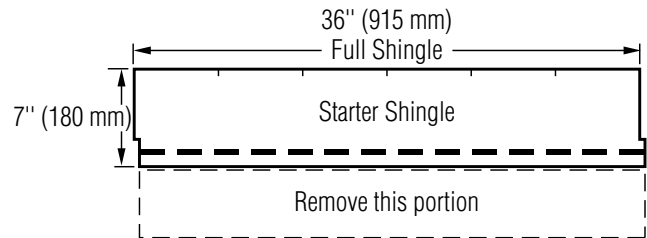

Figure 14-5: Make starter shingles by removing the lower 5" tabs.
1. Use CertainTeed Starter™ (10" x 36") or a starter course consisting of the shingles from which the lower 5" tabs have been removed (Figure 14-5).